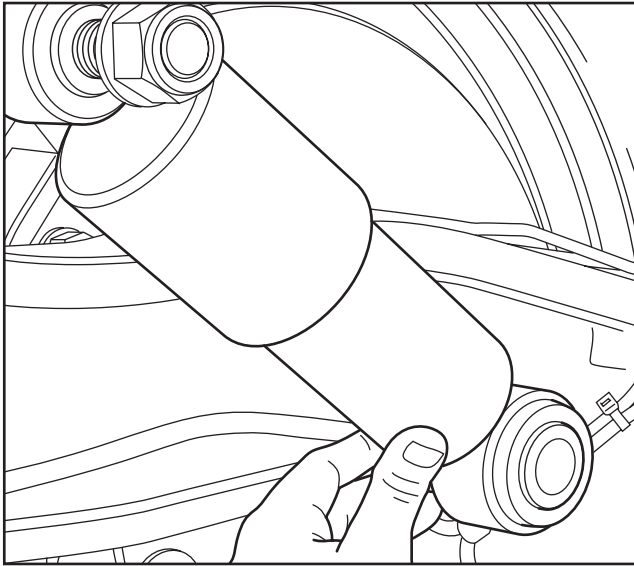

Fig 4.16
1. Locate the top eye of the damper on to the upper mounting bolt. Fit a new nut and washer (Fig 4.16).